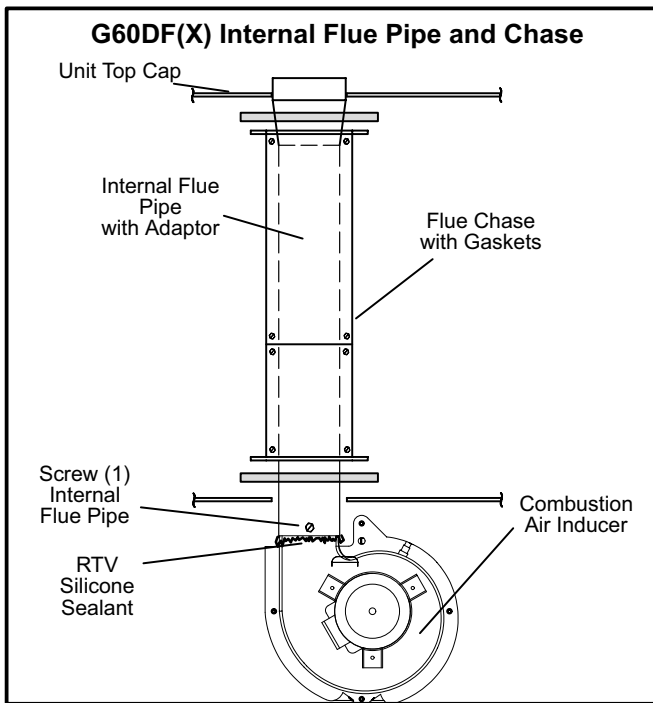

FIGURE 17
- 3 - Remove the screw that secures the internal flue pipe to the combustion air inducer. See figure 17.